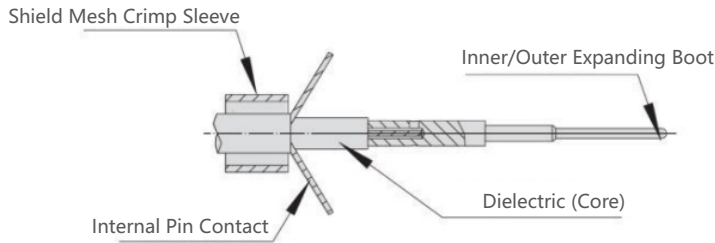

Figure 2.7
②As shown in Figure 2.7, proceed as follows: